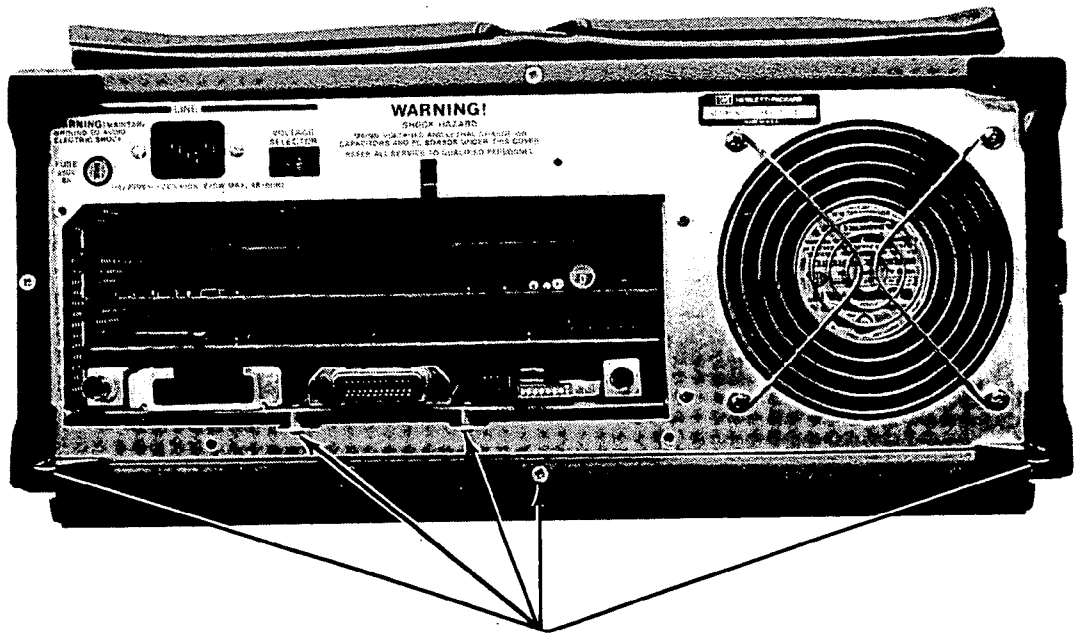

Figure 3
5. Refer to FIGURE 3 ... Remove the two screws securing the CPU Board, the one securing the bottom panel and the two plastic standoffs at the corners of the bottom panel.